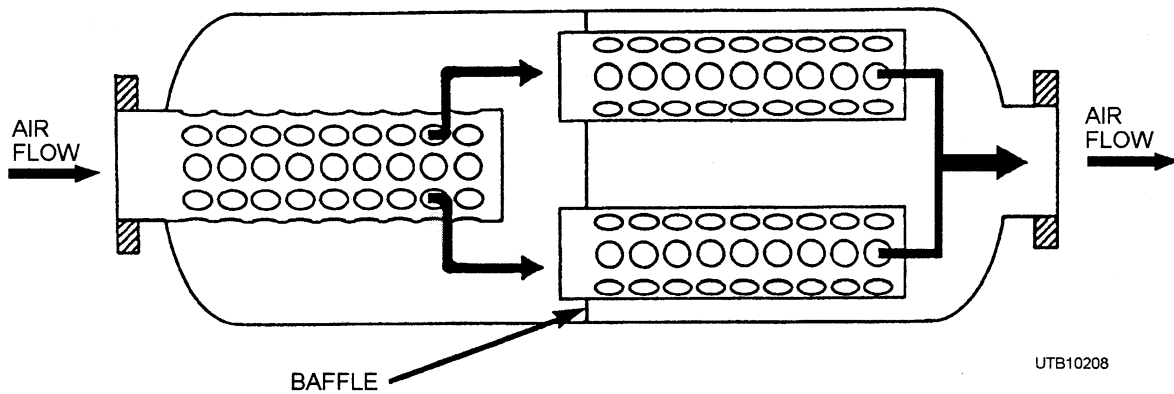

Figure 6-43.—Compressor intake silencer.
**SILENCERS.**—Air compressors are fitted with silencers (fig. 6-43) that are sound-absorbing devices attached at the intake and output of the compressor. In general, air noise silencers are cylindrical housings containing acoustically tuned baffles and sound-absorbing material.